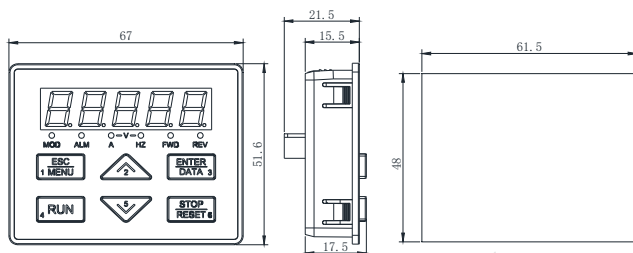

Fig.2-5 EN-LED15 appearance and opening size of keypad
1. EN-LED15 、EN-LED15-D long-distance keypad outer lead, do not support keypad holder installed, only keypad installed support, mounting size refer to Fig.2-5.